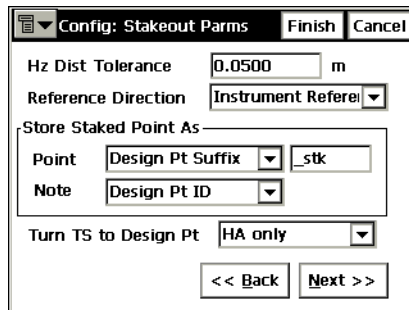

Figure 3-55. Config: Stakeout Params
11. Set the Stakeout Parameters: the Horizontal distance tolerance, reference direction, the rule for generating the name and Note of the staked point (if necessary), and the way the total station is to be turned towards the design point, and tap **Next** (Figure 3-55).